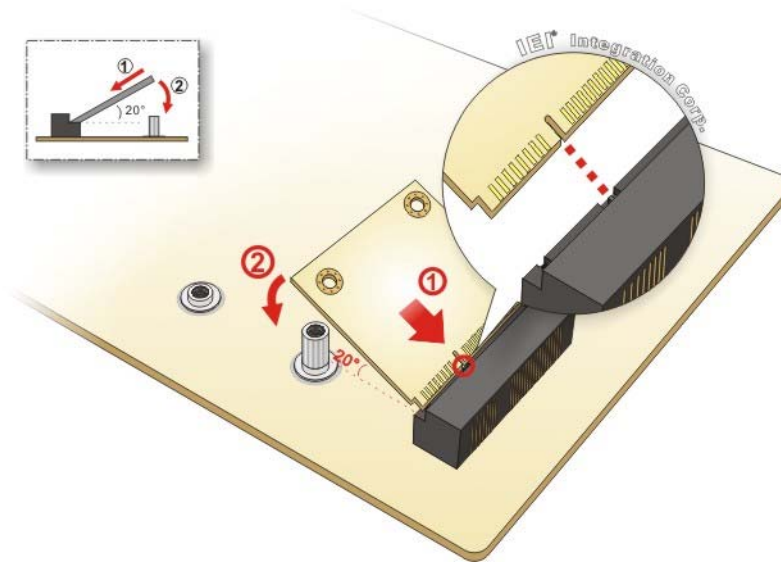

Figure 4-13: Inserting the Half-size PCIe Mini Card into the Slot at an Angle
Step 5: Insert into the socket at an angle. Line up the notch on the card with the notch on the slot. Slide the PCIe Mini card into the slot at an angle of about 20° (Figure 4-13).